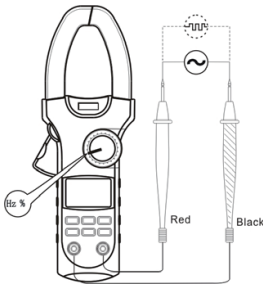

Figure 7
E. Measuring Frequency and Duty Cycle (See Figure 7)